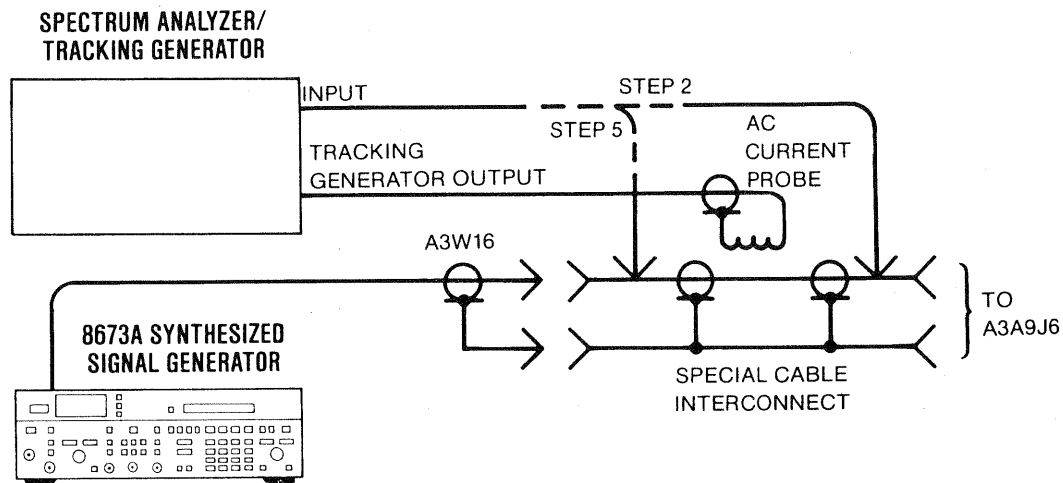

Figure 5-12. YTO Loop Phase Detector Adjustment Test Setup
2. Connect the equipment as shown in Figure 5-12. The special interconnect cable is inserted between A3W16 (gray cable) and A3A9J6 (YTO TUNE 1).